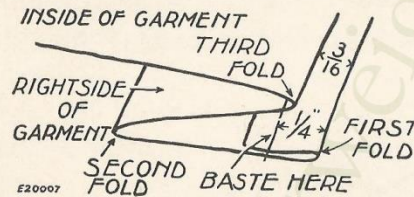

FIG. 237. PREPARATION OF MATERIAL FOR MAKING INVISIBLE HEM WITH FOLDED EDGE
(SEE FIG. 237)
- d—Now fold hem toward right side of garment, exposing about one-half of the **first fold**, as shown in Fig. 237.